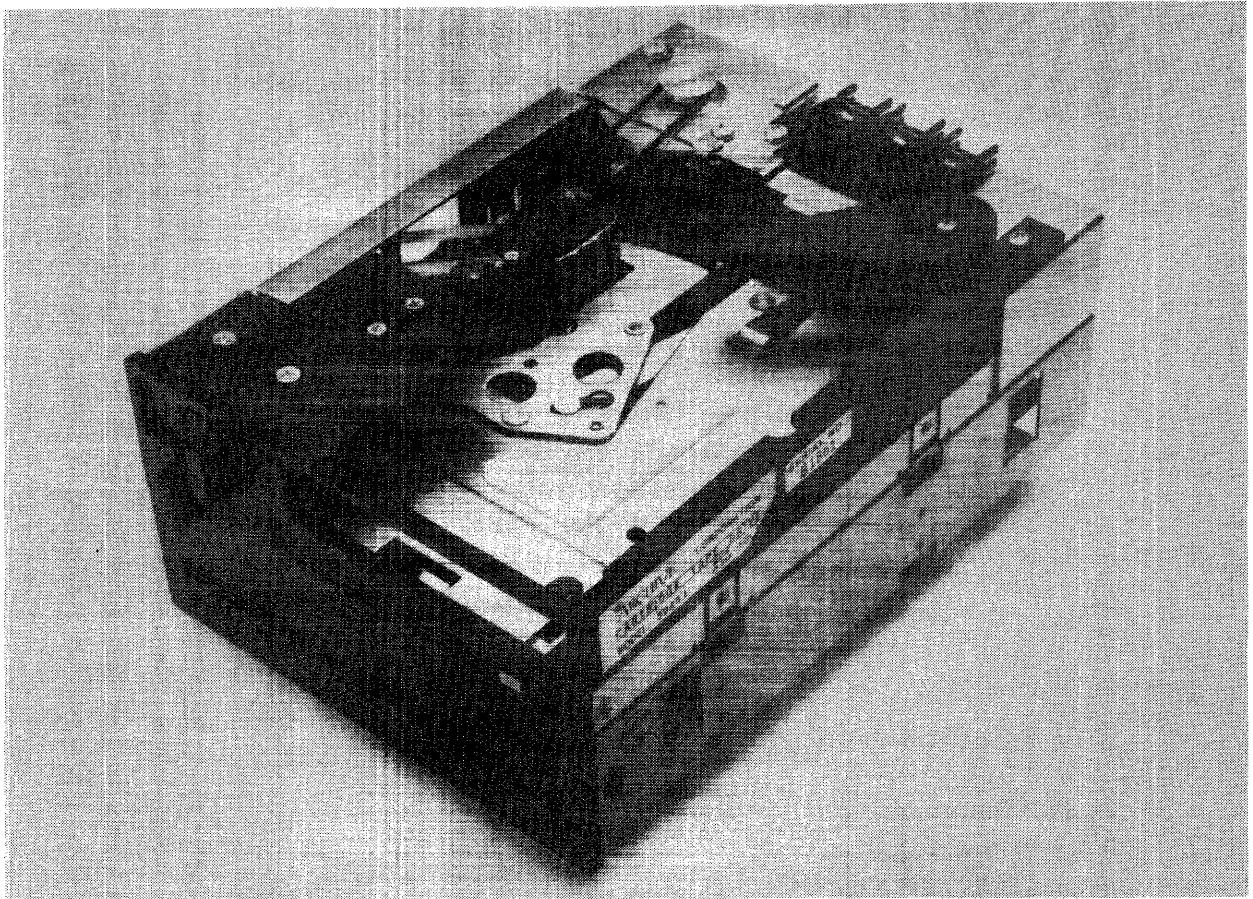

Figure 5.1 Full-High Intelligent Tape Drive
- A full-high Intelligent option combines the Basic tape drive (described in Section 3.0) with the Stand Alone Controller (SAC) PWB mounted in a metal chassis below (Figure 5.1)